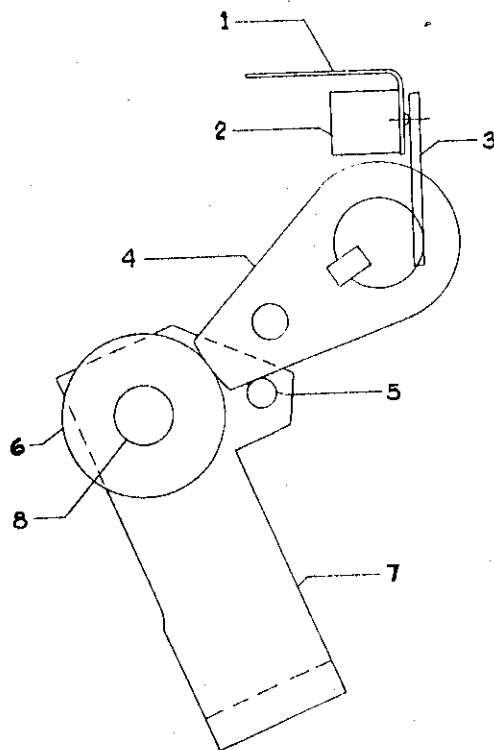

Figure 13. (0114C5320) Latch Checking Switch
Refer to Figure 13. Charge the closing springs sufficiently to reset the mechanism linkage. Rotate the trip latch (4) by pressing manual trip lever to open the latch checking switch (2). Allow the trip latch to reset slowly and determine the point at which the contacts are made by using a circuit continuity tester (light indicator, bell set, etc). The contacts of the latch checking switch should just make when the gap between the trip latch (4) and the stop pin (5) located on the latch roller link (7) is  $1/16"$ . There should be a minimum of  $1/64"$  between the switch arm (3) and the switch support (1). To obtain adjustment of the latch checking switch, bend the latch checking switch arm (3).